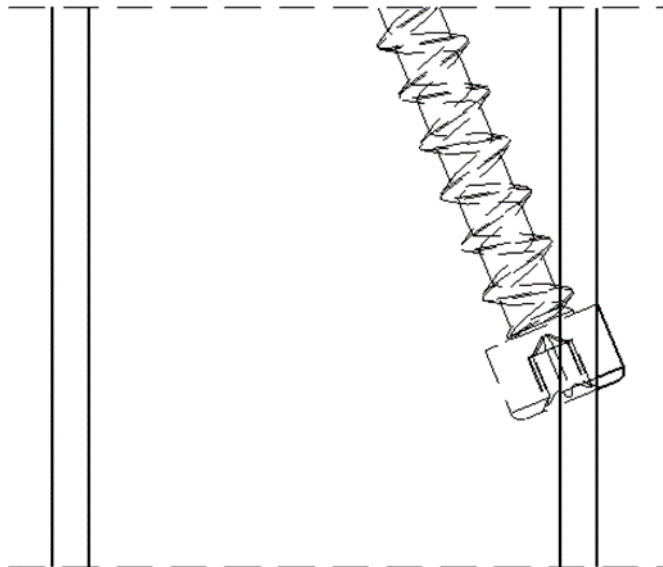

Figure 6. Diagram Showing Fastener Head Fully Bearing against Stud
2.5.1.1 The CAMO Series #14 x 6" Truss Screws shall be installed at a downward angle from the vertical of 4° to 14° (Figure 6) and shall penetrate the wood truss, rafter or joist within $\frac{1}{4}$ " of the centerline.
- 2.6.1.3 Starting from the specified end distances, drive the fastener until the bottom surface of the fastener head fully bears against stud (see Figure 6).
- 2.11.2 For the screws that are driven into the sides of the knee brace, it is permitted to drive the fastener until the bottom of the head is flush with the surface of the wood member as shown in Figure 6, or drive the fastener until the top of the head is flush with the surface of the wood member.